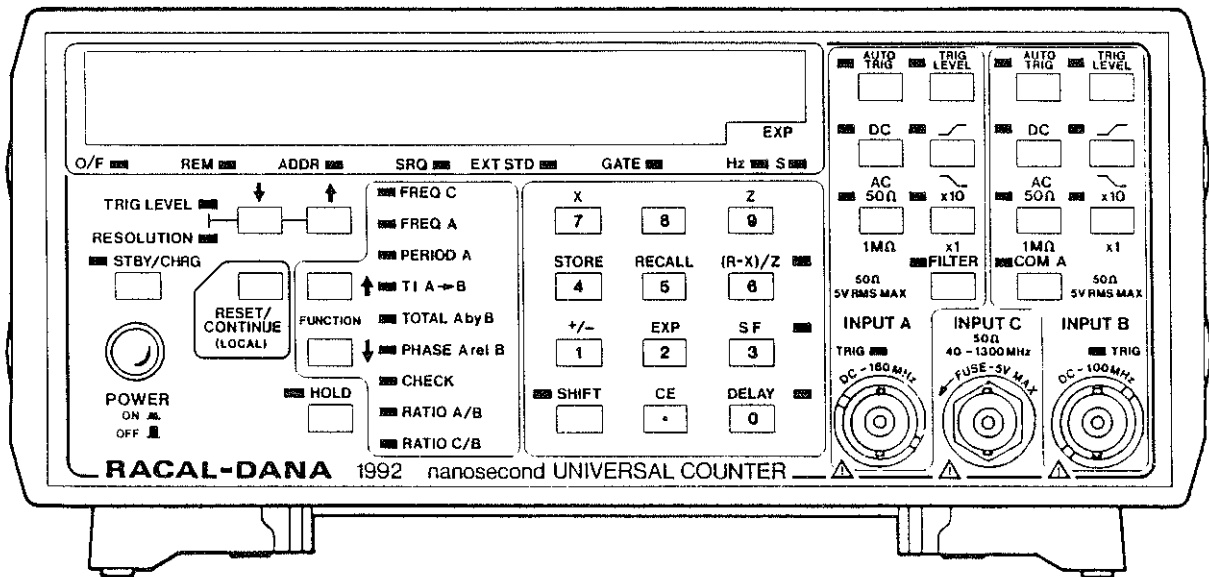

Figure 1.1 - Model 1992-02M Universal Timer/Counter
1.1.1 This Instruction Manual provides information for installing, operating, and servicing of Racal-Dana's MATE Frequency/Time Interval Meter (FTIM) 1992-02M. The designation 1992-02M is used throughout this manual. Figure 1.1 (facing page) shows a front view of the 1992-02M. The 1992-02M offers universal counter functions using Inputs A and B. The 1992-02M also provides frequency measurements to 1.3 GHz using Input C.